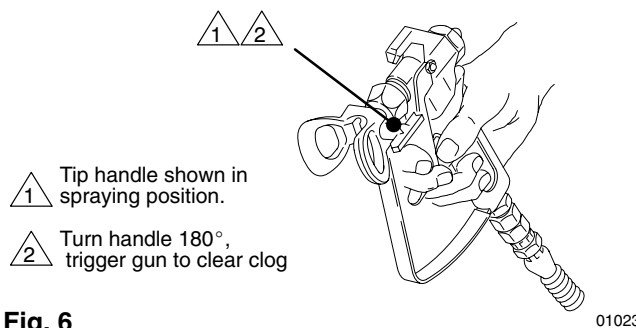

Fig. 6
The tip guard alerts you to the risk of injection and helps prevent placing any part of the body close to the spray tip. The tip guard also adjusts the vertical or horizontal spray pattern. See page 10. The tip guard holds a reversing spray tip. The tip is in the spraying position when the tip handle points forward. See Fig. 6.
7. Release the gun trigger. Engage the safety latch. Rotate the RAC IV tip handle 180°. See Fig. 6.